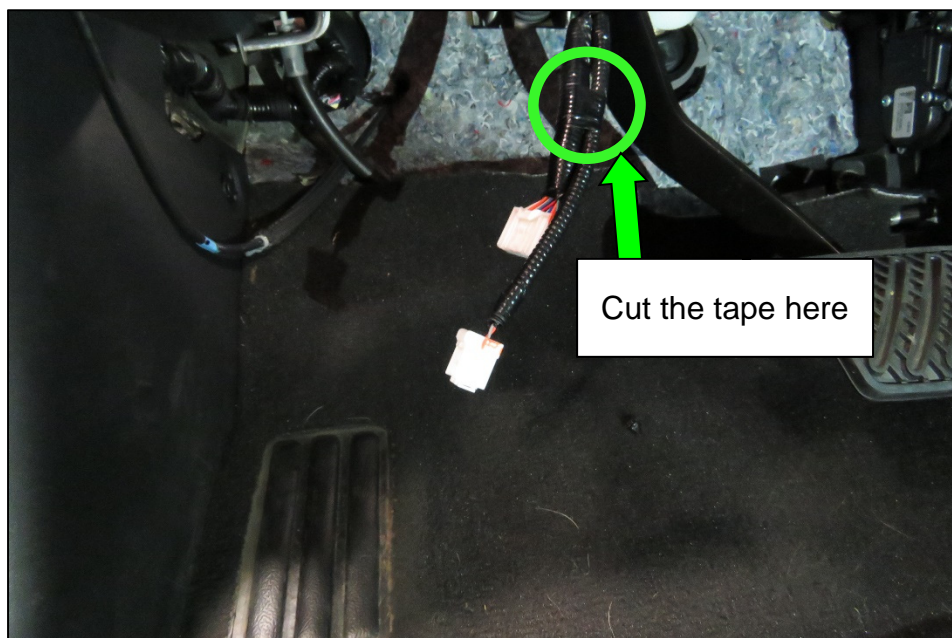

Figure 4
3. Allow the two (2) harness branches to hang down, then carefully cut the tape to separate the two (2) harness branches (Figure 4).